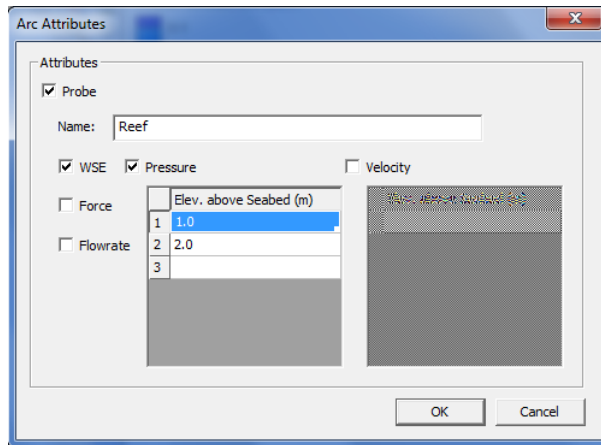

Figure 13 Attributes of manually placed probe.
6. Turn on the probe toggle, the “WSE” toggle, and the “Pressure” toggle and enter elevations as shown in Figure 13.